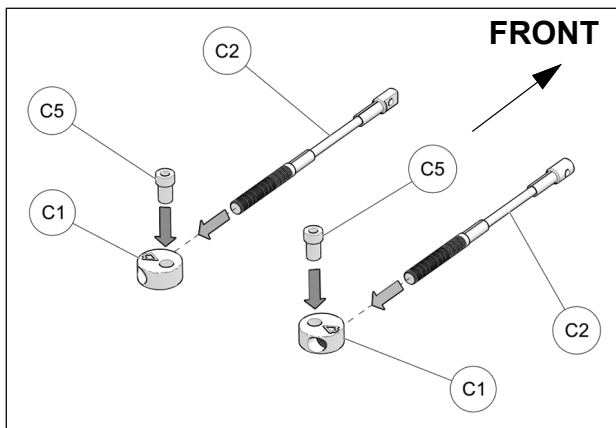

Fig. 21
13. Assemble steering limiter cables (**C2**), aluminum disks (**C1**) and step spacers (**C5**) together as shown on Fig. 21